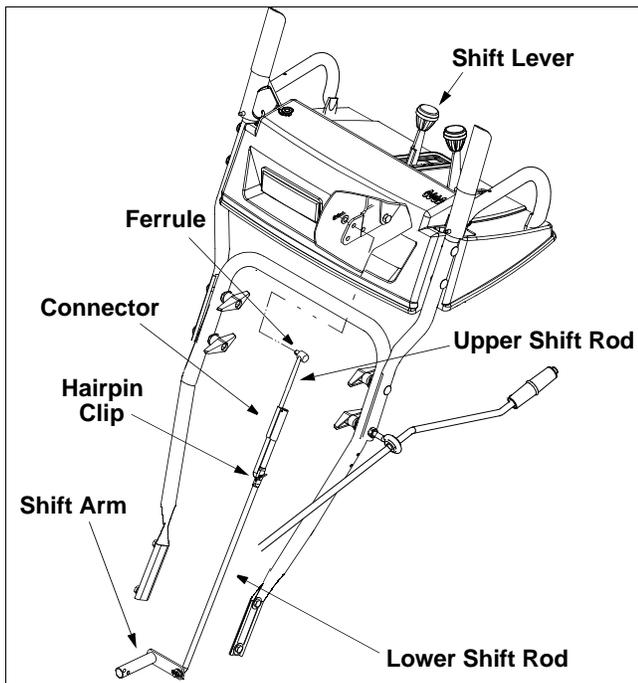

Figure 11
- Remove the hairpin clip and slide the connector up to separate the upper shift rod from the lower shift rod. See Figure 11.
- Place shift lever in the sixth (6) Forward position.